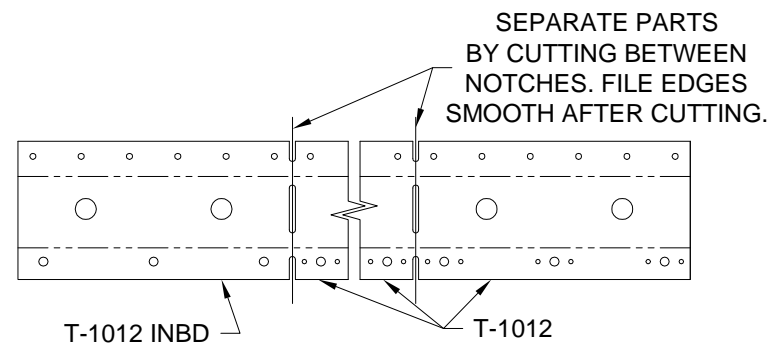

FIGURE 2: TANK ATTACH ZEE TRIM DIAGRAM
Step 3: Trim T-1012 Tank Attach Zee's as shown in Figure 2. (Figure 2 shows the untrimmed zee's "flat" or "un-bent" for clarity.)